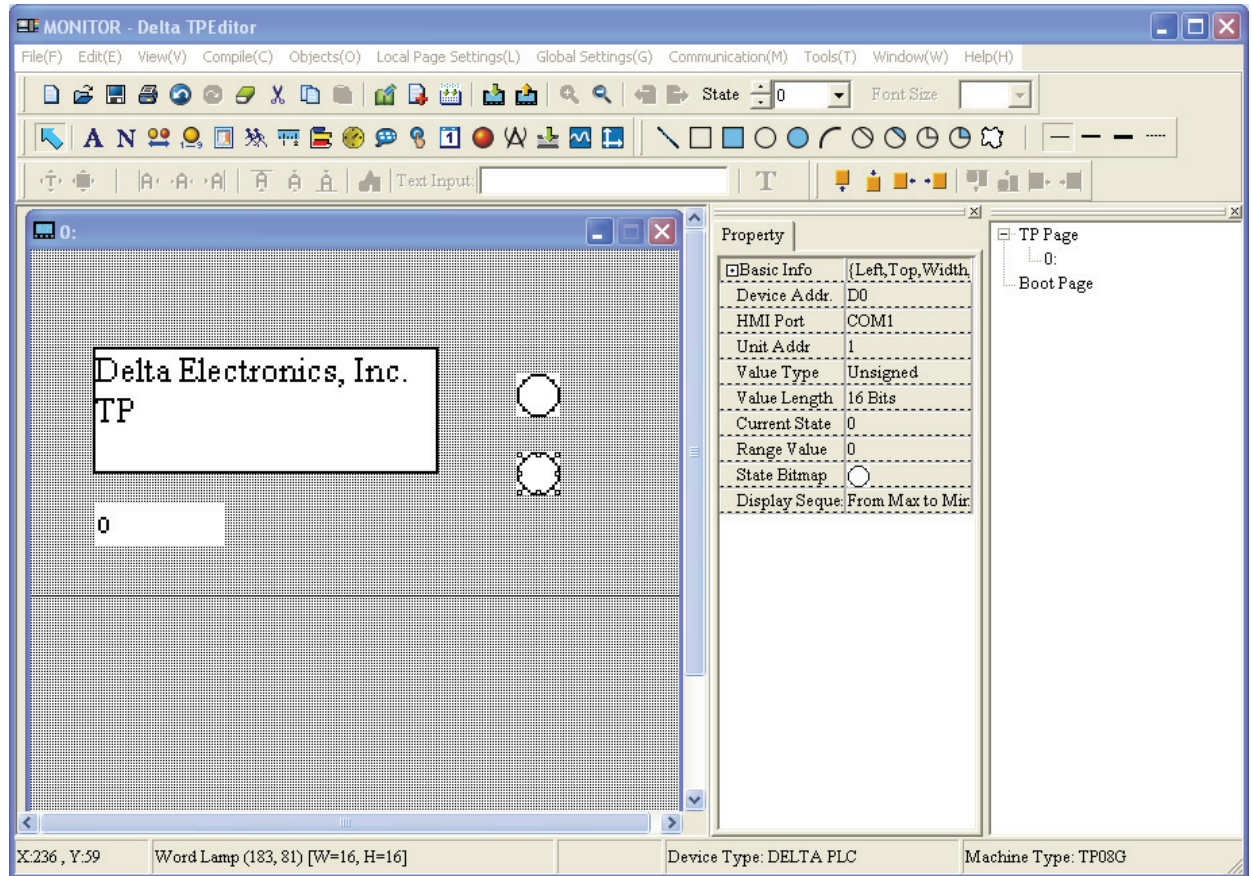

Figure 1-65
Step 9. After complete the settings, the users can get the screen like Figure 1-65 below.